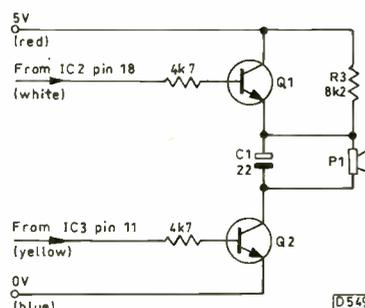

Fig. 1: Beeper circuit for the Genie ESR meter.
Fig. 1 shows the modification circuit details. Two general-purpose npn transistors (e.g. BC548) are used to detect the on state of the Genie's range LEDs. As the LEDs are multiplexed, the voltages fed to them are continuously switched on and off. Because of this the transistors (Q1/2) are connected in a rather unusual way.
Analogue signals are usually transmitted omnidirectionally from the aerial, as shown in Fig. 1(a). The distribution of a digital signal is not the same: it can be likened to the petals of a flower, as shown in Fig. 1(b). If the receiving site is at A, within one of the lobes, reception is fine. If it's at B, the same distance from the transmitter, there is zero signal and thus no reception. Fig. 1(b) shows the distribution for just one multiplex: the lobes for the other multiplexes do not coincide with this or any other one. Fig. 1(c) illustrates this. At A both signals would be received, but at B only one signal would be received. For simplicity the diagram shows just two multiplexes. Thus getting full coverage from a transmitter without
**Fig 1: Transmitting aerial polar responses. (a) Omnidirectional analogue; (b) omnidirectional digital, one multiplex; (c) omnidirectional digital, two multiplexes.**